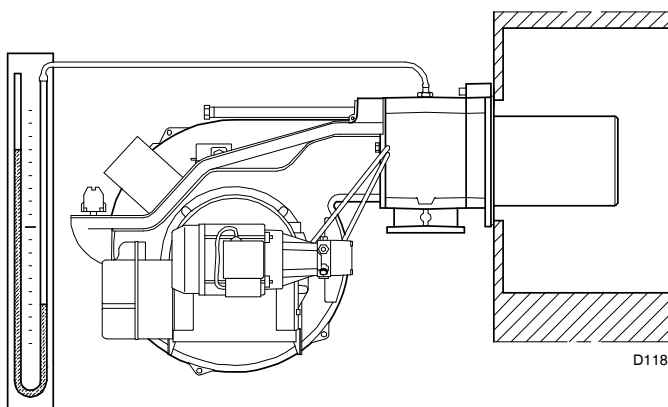

Fig. 34
- Fit a U-type manometer (Fig. 34) to the gas pressure test point on the sleeve.
The arrival of gas at the sleeve is indicated by the U-type manometer (Fig. 34).